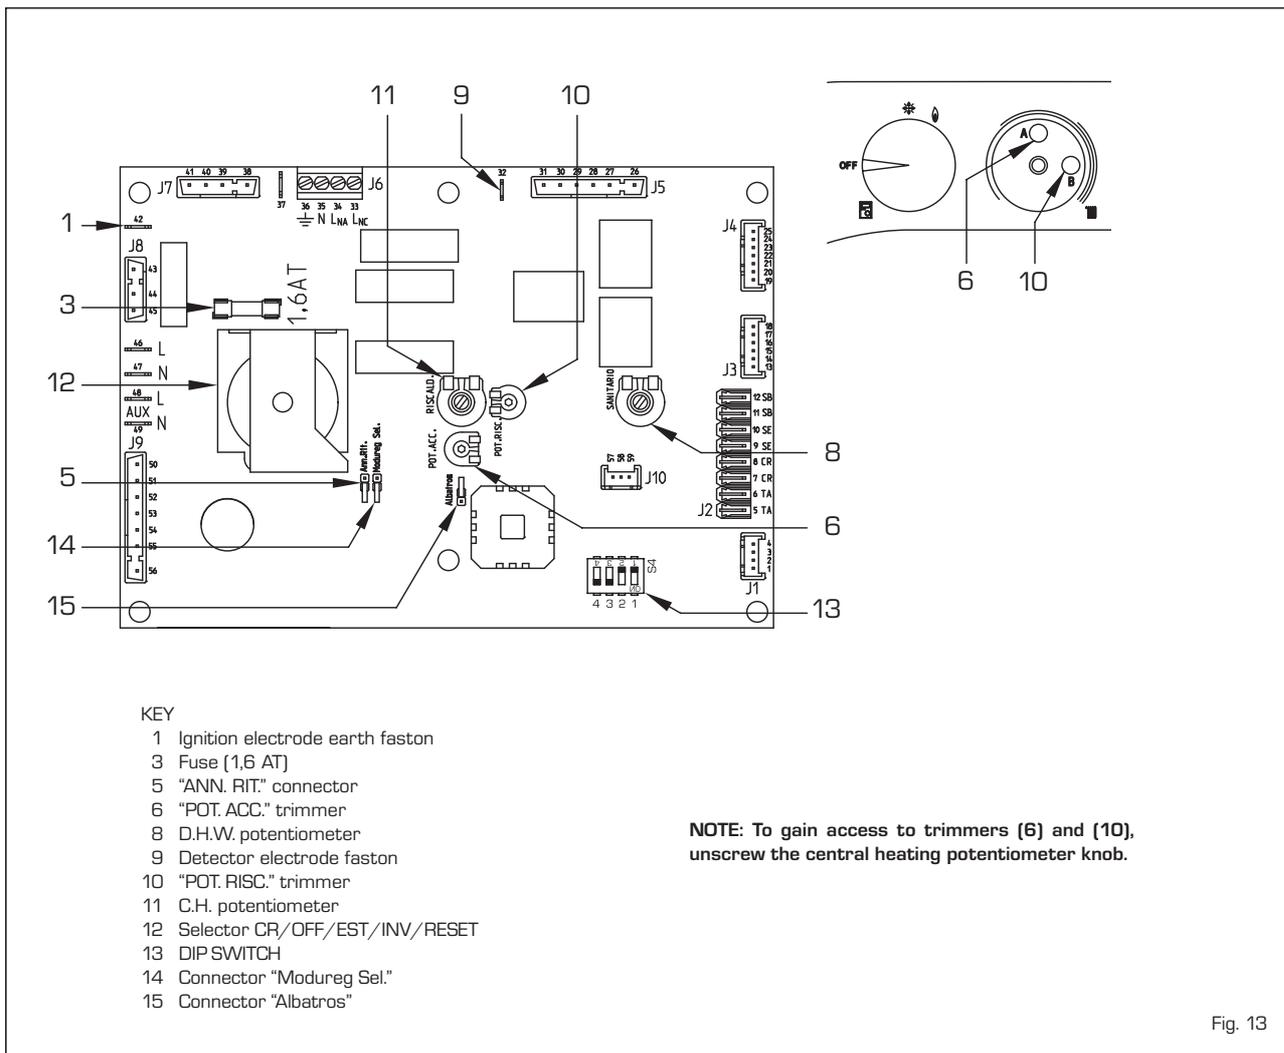

Fig. 13
- "HEATING POWER" TRIMMER (10 fig. 13)
- "IGNITION POWER" TRIMMER (6 fig. 13)
- "ANN. RIT." CONNECTOR (5 fig. 13)
- DIP SWITCH (13 fig. 13)
- "Modureg Sel." connector (14 fig. 13)
- "Albatros" connector (15 fig. 13)
screwdriver on the heat power trimmer (10 fig. 13) To increase operating pressure, rotate the trimmer clockwise, to reduce it, rotate the trimmer counter-clockwise. Boiler power settings can be checked